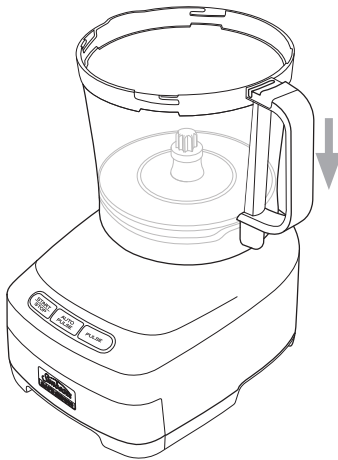

Fig 1
2. Place the processing bowl onto the motor base, the bowl will only sit correctly on the base when the handle is positioned to the right, see figure 1.
1. Fit the processing bowl and spindle as detailed previously in figures 1, 2 & 4.
1. Fit the processing bowl and spindle as detailed previously, in figures 1, 2 and 4.
1. Fit the processing bowl and spindle as detailed previously in figures 1, 2 and 4.